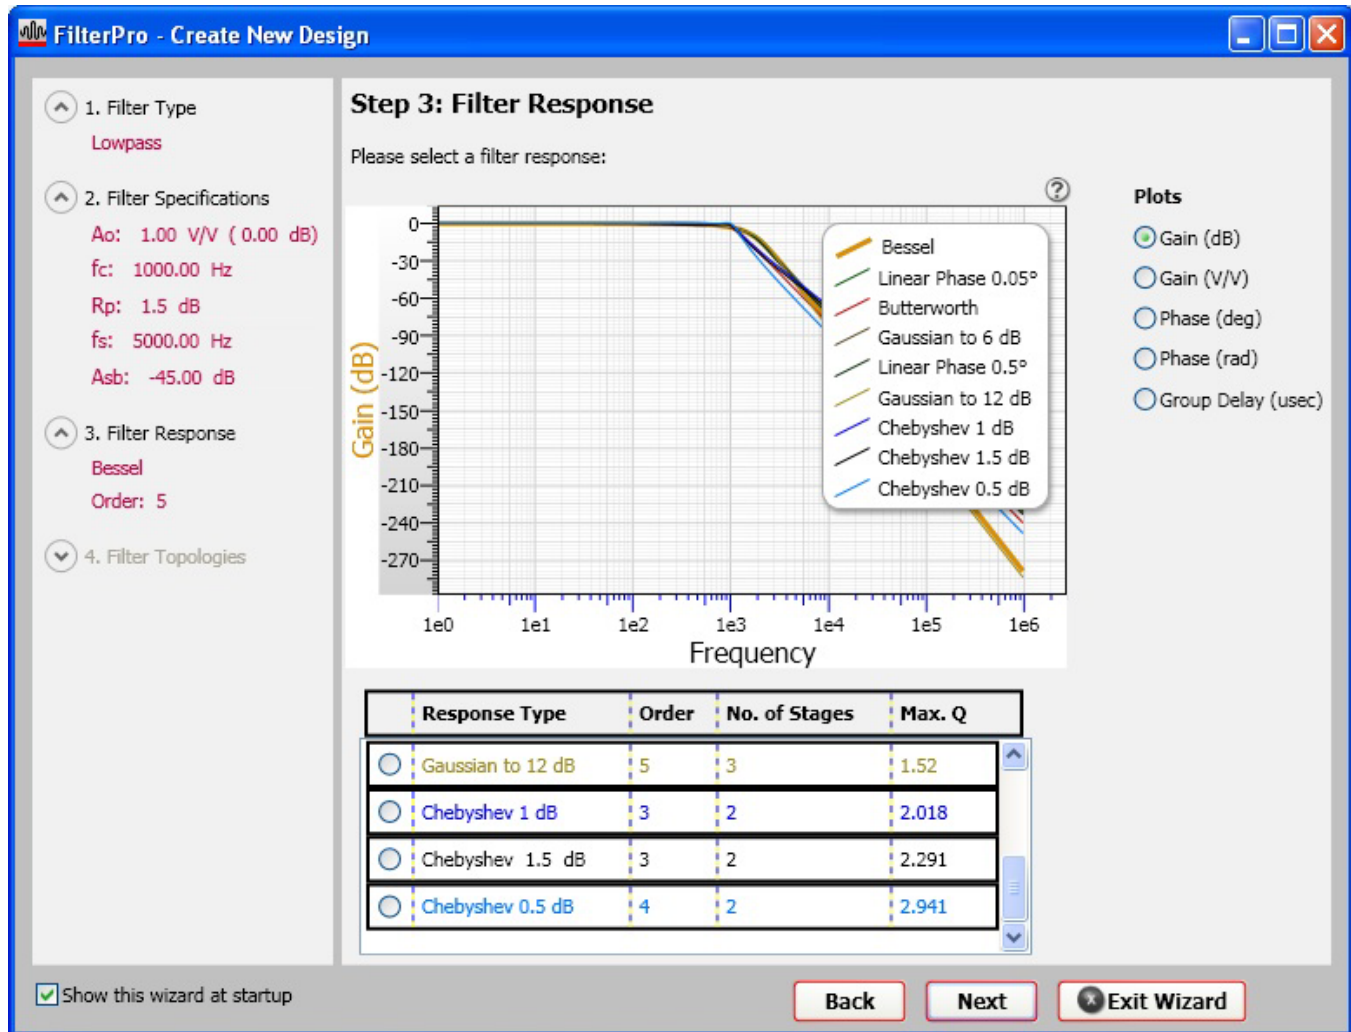

Figure 17. Filter Response Selection Screen
- Chebyshev with ripple value entered in *Allowable Passband Ripple* box (in Figure 17, for example, a 1.5dB Chebyshev filter has also been shown, because **1.5** was the value entered into the *Allowable Passband Ripple* box).